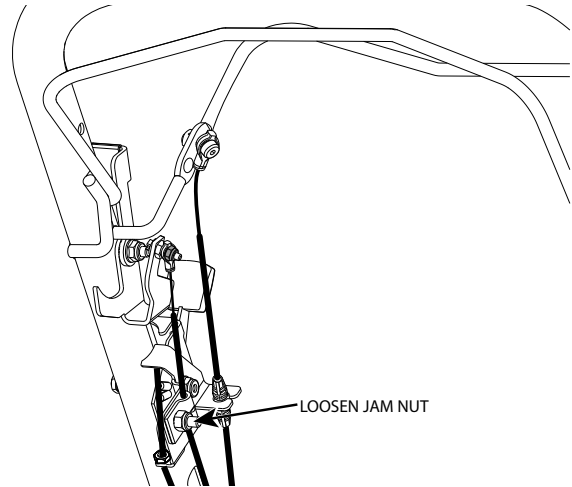

Figure 6-1. Parking Brake Cable Adjustment
3. With the brake disengaged, adjust the cable to increase tension until you feel slight rolling resistance in the left rear wheel. See Figure 6-1.